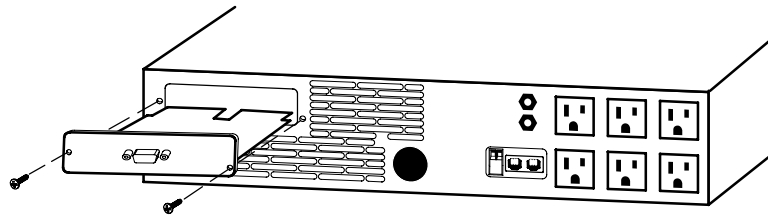

Figure 24. Removing the Single-Port Card
1. Remove the Single-Port Card on the UPS rear panel. Retain the screws (see Figure 24).